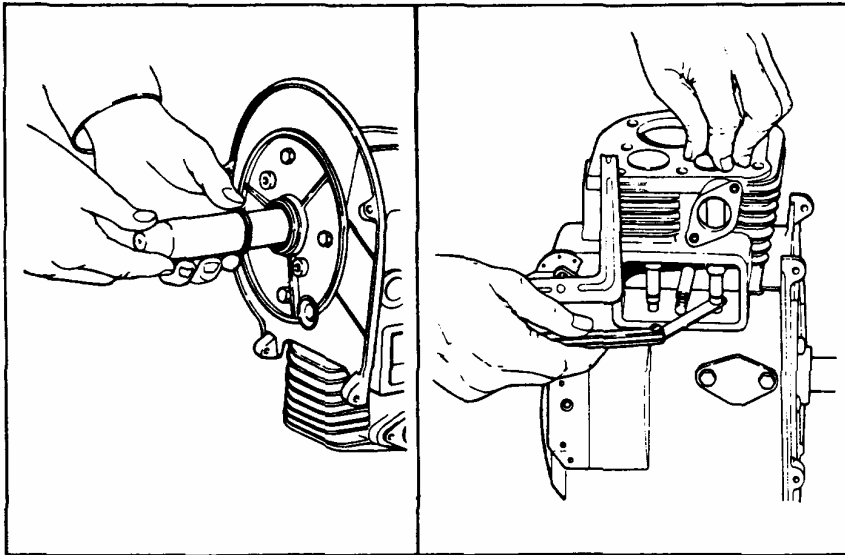

Figure 43 - Installing Oil Seals
- b. After oil seals are started on shaft, place block on its side. The oil seals may now be driven squarely into bearing plate and cylinder block. (See Figure 43)